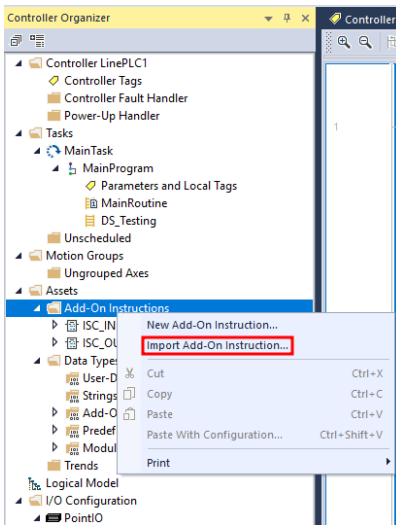

Figure 32: Import Add-On Instruction Controller Organizer
16. Within the “Controller Organizer” open the “Assets” folder then right click “Add-On Instructions” and select “Import Add-On Instruction...,” Figure 32.